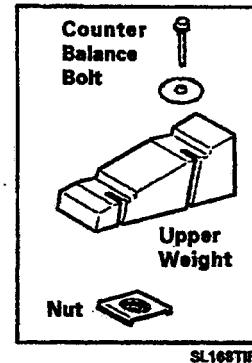

Figure 2-47
**NOTE: The bolts screw into two nuts below the weight, under the tub mounting pad (Figure 2-47).**